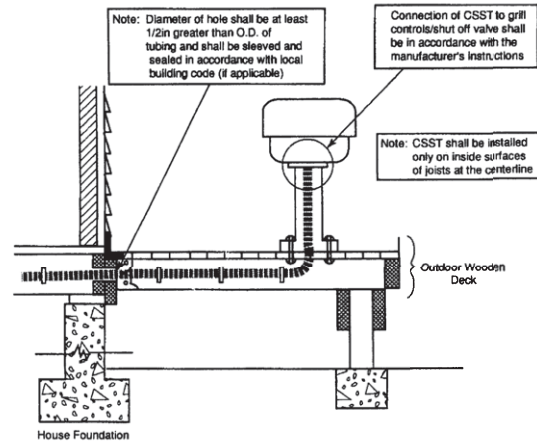

Figure: 4-38
2. Permanently mounted grills located on decks shall be connected with the **TracPipe® CounterStrike®** system as shown in Figure: 4-38-and in accordance with this guide. The outdoor portion of the piping shall be supported against the side of any of the inside deck joists. If the elevation of the deck is below the top of the foundation, any exposed piping shall be protected using water-tight non-metallic conduit.
3. Permanently mounted lights located on decks shall be connected to the piping system the same as permanently mounted grills shown in Figure: 4-38 and in accordance with the manufacturer’s instructions.